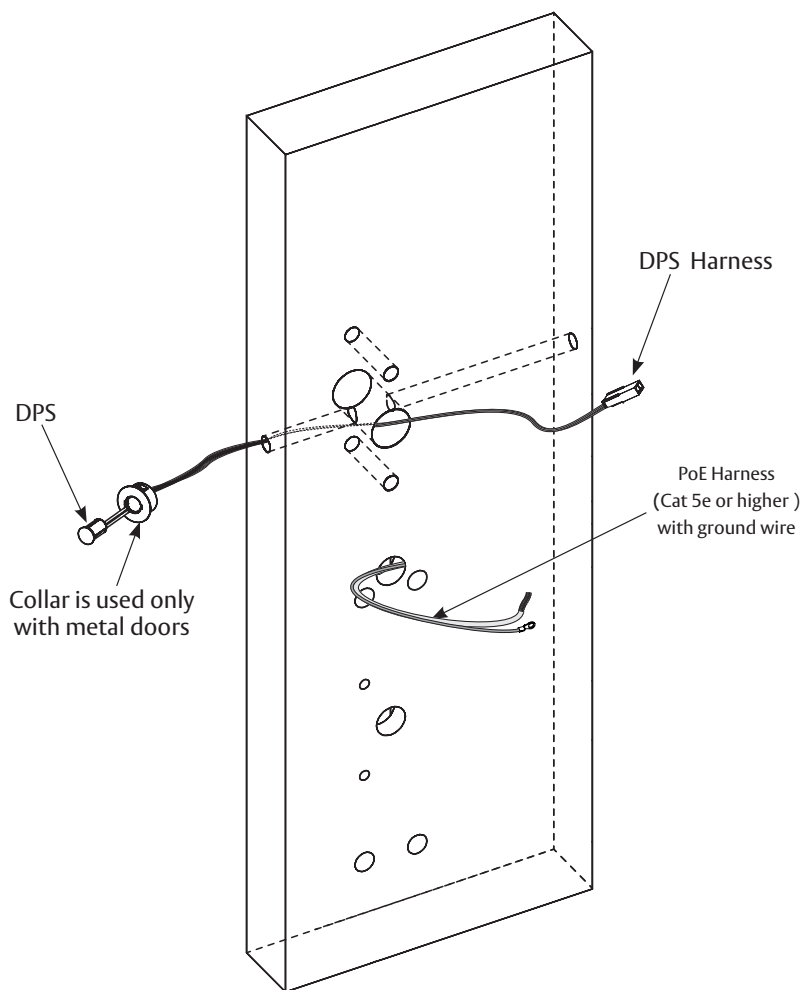

Figure 5-2
1. Insert connector end of DPS through the raceway on the latch edge of the door. (Figure 5-2)